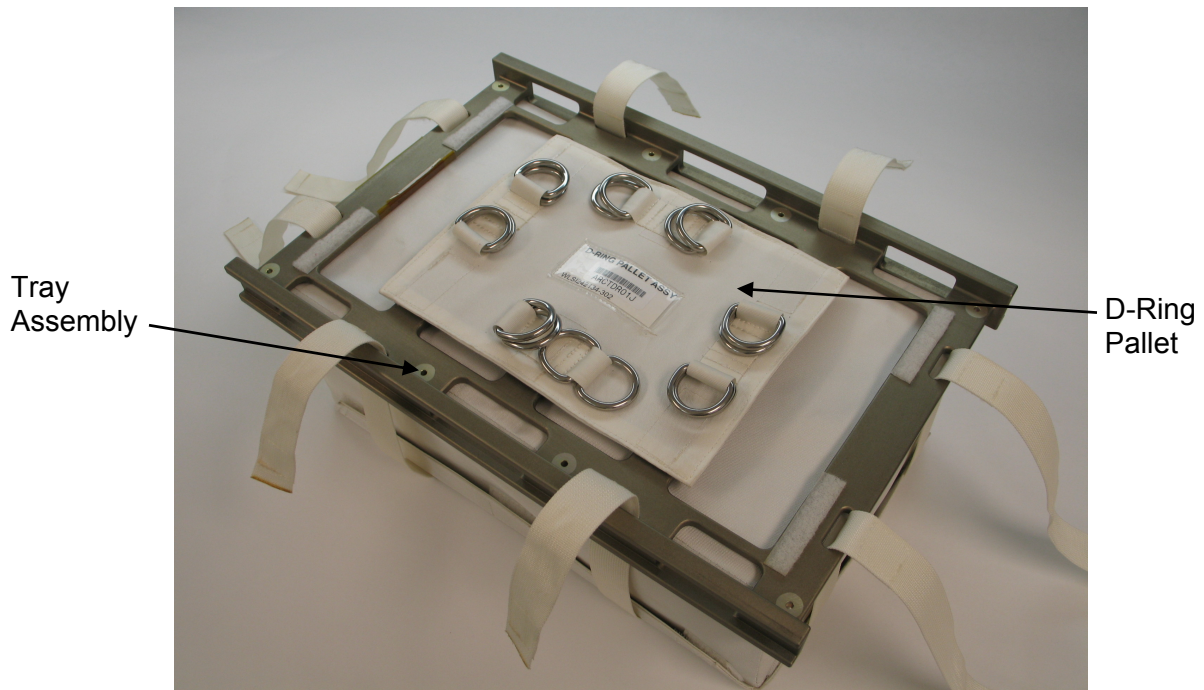

Figure 5-4. - MERLIN Pouch Assembly Unstrapped
- * slots on Tray Assembly. (See Figure 5-4 REFERENCE 5: *